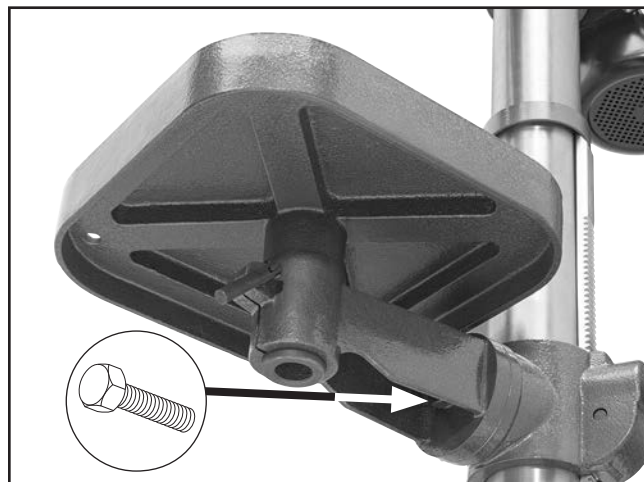

Figure 38. Location of hex bolt.
1. Loosen hex bolt shown in **Figure 38**.